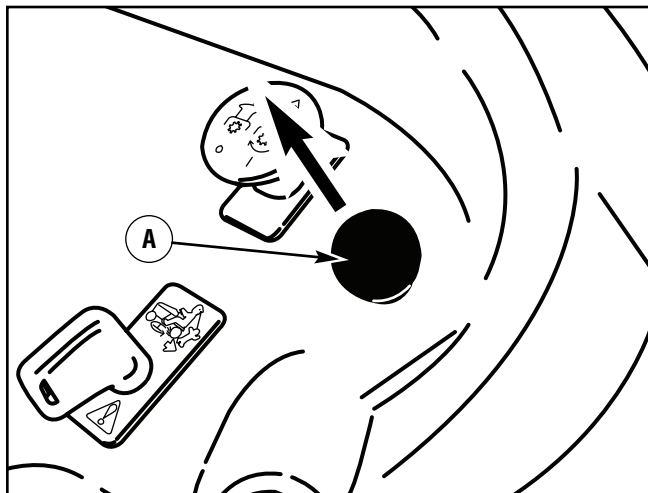

Figure 13: Cruise control
2. Pull up on the **cruise control knob** (Figure 13). Release the **speed control pedal**. The unit should continue traveling forward at the desired speed.